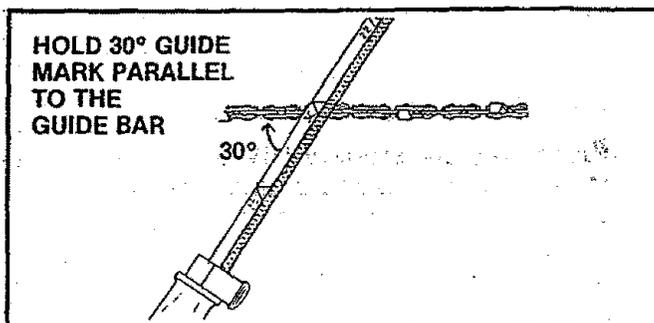

Figure 40
- b.) Hold the file holder level with the 30° guide mark parallel to the center line of the bar. Figure 40.